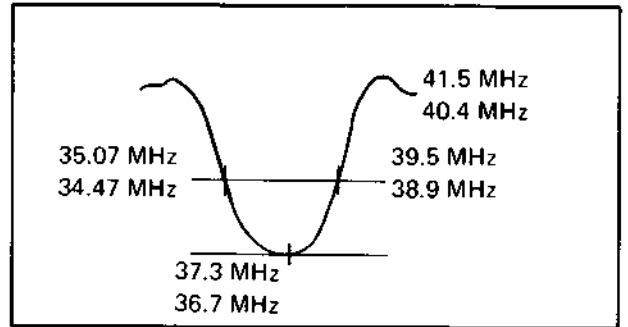

Fig. 5-46
- Adjust the tuner core to make the waveform have an equal height at the 35.07 MHz and 39.5 MHz (HR-3660EK), 34.47 MHz and 38.9 MHz (HR-3660EG) markers as shown in Fig. 5-46.
- Adjust the core T102 to tune the adjacent sound trap to the 41.5 MHz (HR-3660EK), 40.4 MHz (HR-3660EG) marker as shown in Fig. 5-46.